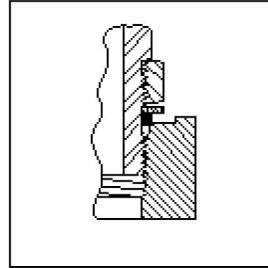

Fig.A8 Orient fitting by backing out up to one turn maximum
5. Position the fitting as required by backing out (ccw) up to one turn maximum. See Fig.A8.